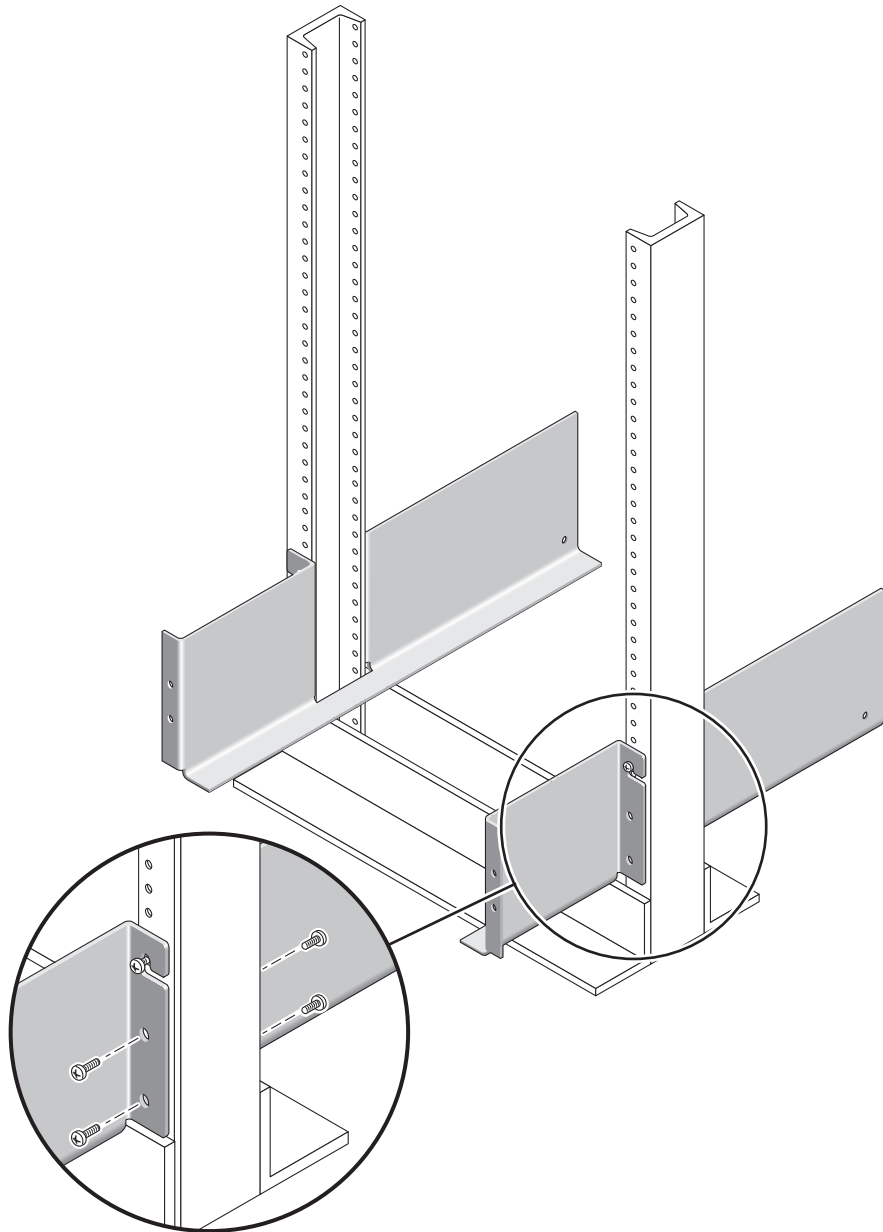

FIGURE 2-21 Inserting Screws in the Lower Mounting Holes
3. Insert eight 12-24 screws (four in each post) in the lower mounting holes at the front and back of the left and right rails (FIGURE 2-21).